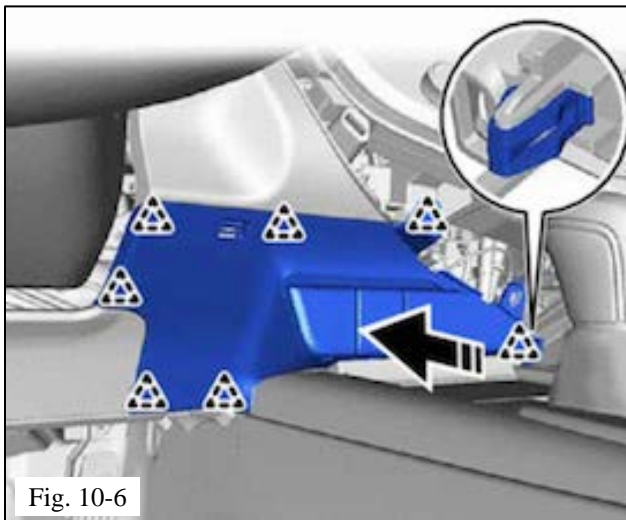

Fig. 10-6
- (2) Engage the clamp
- (3) Engage the 7 clips to install the lower center instrument panel finish panel as shown (Fig. 10-6).